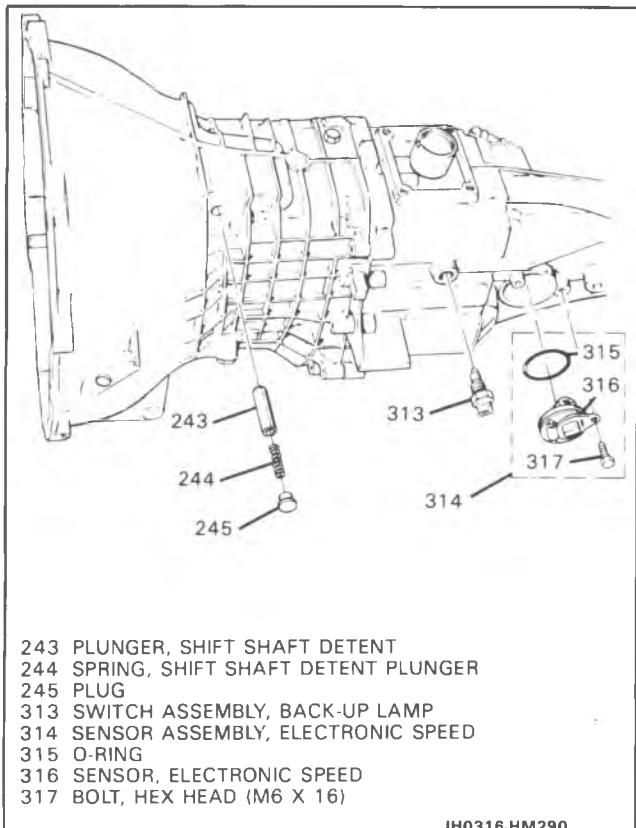

Figure 98 External Components Install
- Bolts (204) to 8.5 N·m (7 Lb. Ft.)
20. Shift shaft detent plunger (243), shift shaft detent spring (244) and plug (245) using brass drift (Figure 98).
21. NEW o-ring (315) onto electronic speedo sensor assembly (316).
22. Electronic speed sensor assembly (316) and bolt (317).